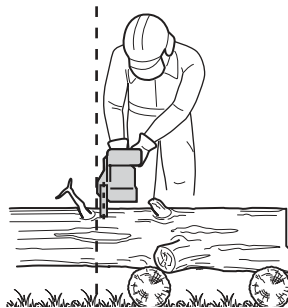

Fig. 32
- > Only use the product with a secure stance. Hold the product to the right-hand side of your body (Fig. 32).